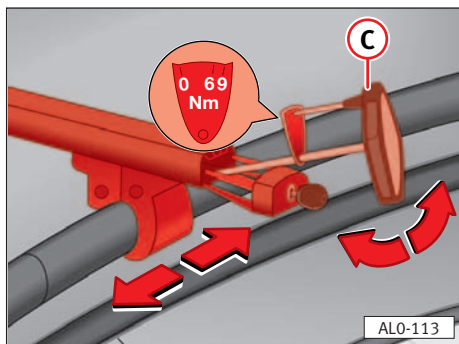

Fig. 117
- 2 – Push dinamometric key ⇒ fig. 117 © into its specific slot.
- 3 – To loosen turn key ⇒ fig. 117 © to the left, and move slide the bar¹⁾.
- 4 – To tighten, turn key ⇒ fig. 117 © to the right, till a torque of 9 Nm is achieved, as shown on the key.